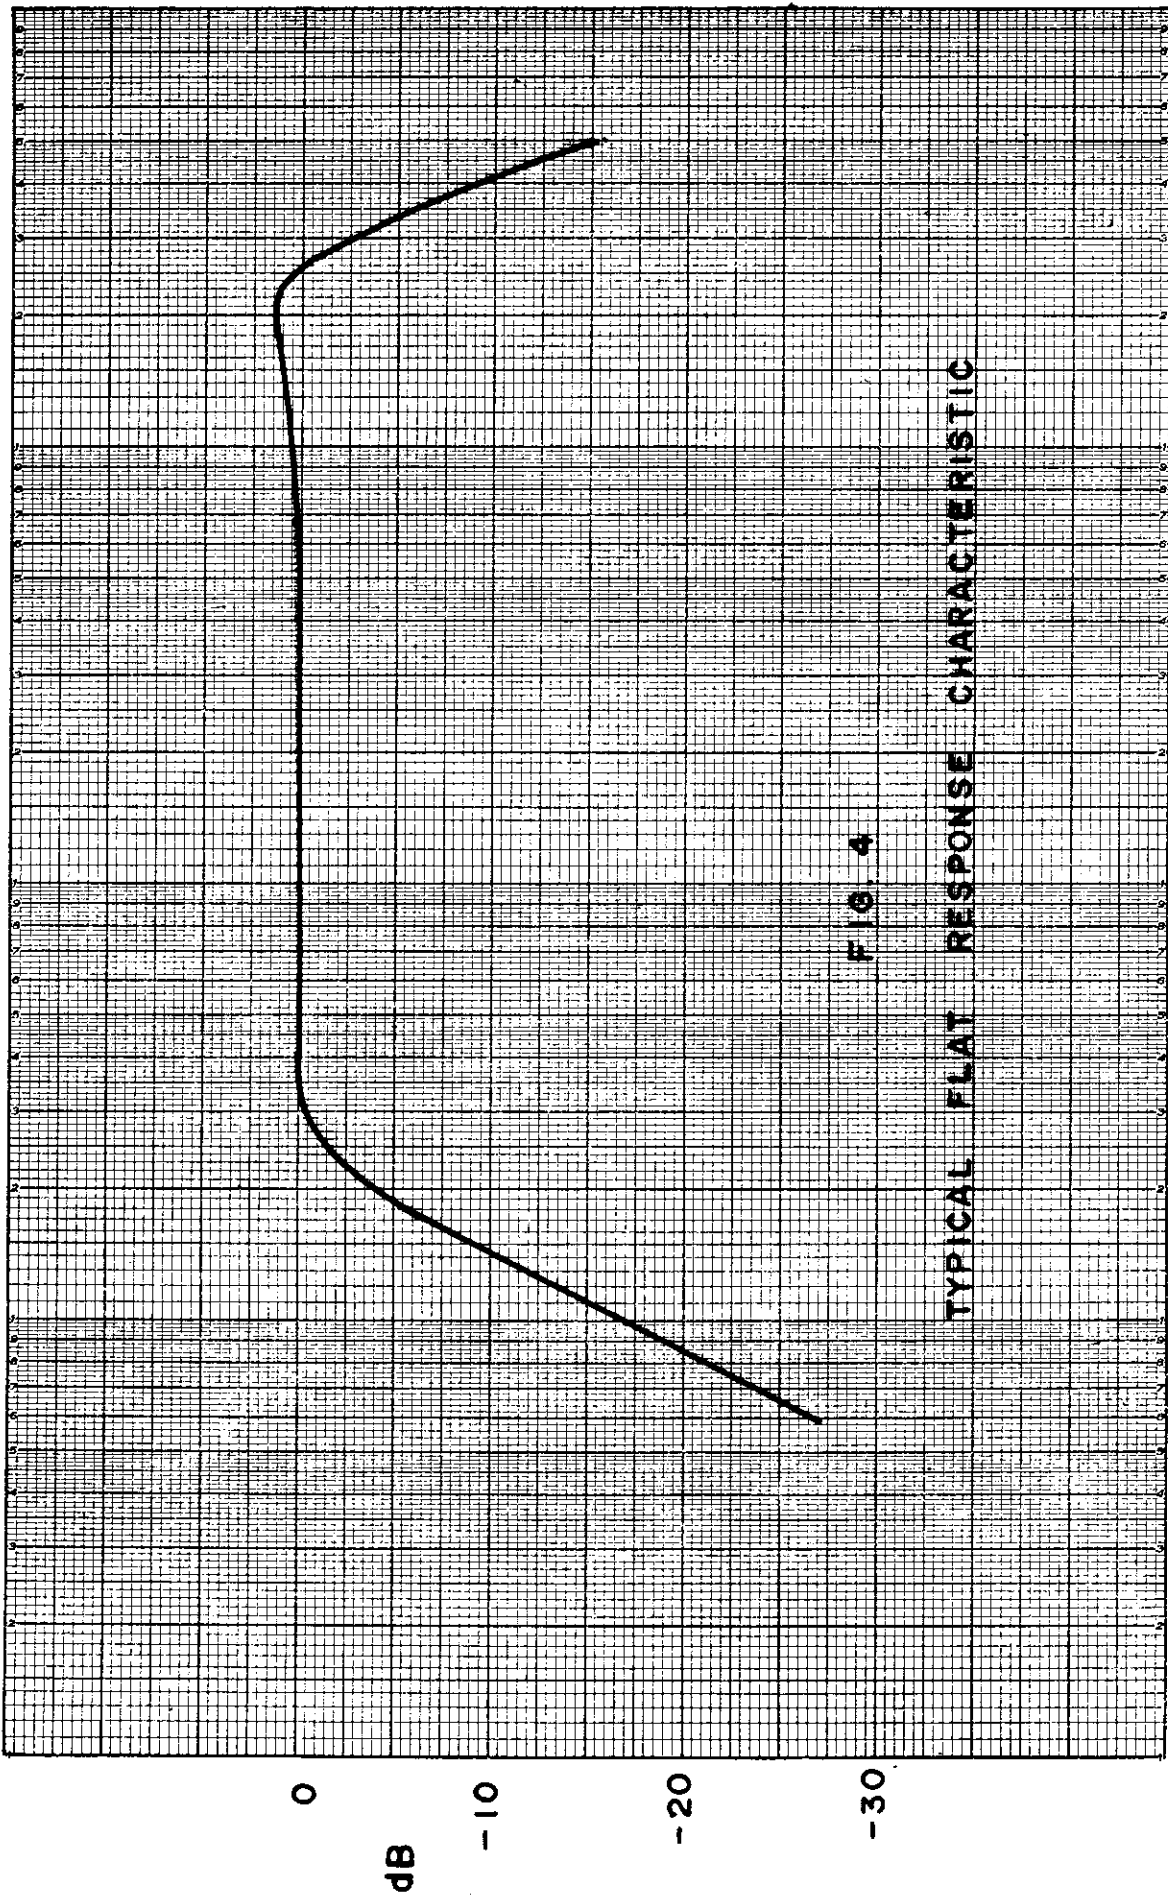

FIG. 4
3.3.1 The normalized signal voltage to be measured is applied to capacitor C5 as previously described. C5, C6, R8, R9, and IC1 form an active bandpass filter whose characteristic curve is given in Fig. 4.